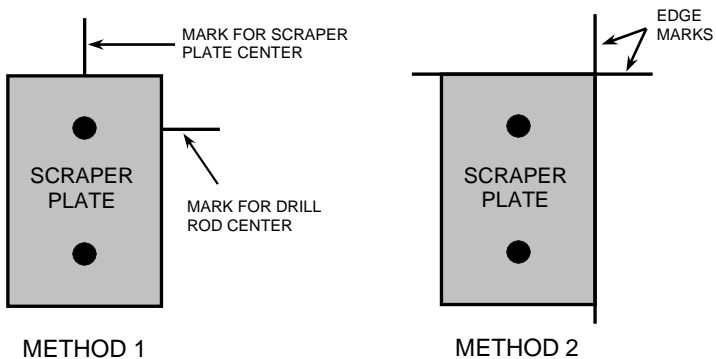

Figure 4-6. Marking the Test Area
- ✓ Mark the test area before removing the scraper plate to ensure the gauge is placed over the same area as the scraper plate (Figure 4-6).